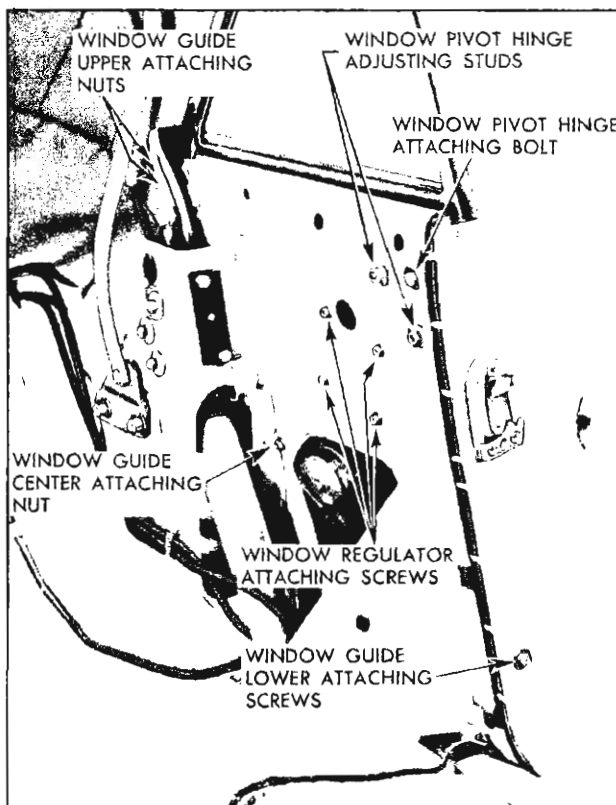

Fig. 65—Rear Quarter Hardware—67 Styles
3. Remove window pivot bolt (fig. 65). Disengage window male hinge from female hinge plate; then raise window to disconnect window lower sash channel cam from roller on window regulator lift arm and remove window.
1. To adjust the limit of the rear quarter window up travel, loosen the window guide upper attaching screws (fig. 65); then adjust upper stop to desired position and tighten guide attaching screws.
- a. Up or down or fore or aft window adjustment: Loosen pivot bolt and both adjusting stud nuts (fig. 65). Position window as required; then tighten pivot bolt and stud nuts.
- b. In or out adjustment of top of window: Loosen lower adjusting stud nuts and slightly loosen rear stud nut. Adjust lower stud in or out, as required; then tighten both stud nuts (fig. 65).
- c. In or out adjustment of rear window: Loosen pivot hinge rear adjusting stud nut and (slightly) lower adjusting stud nut. Loosen window guide upper attaching nuts and center stud nut (fig. 65). Adjust rear adjusting stud in or out as required, then tighten both stud nuts. Adjust window guide for proper alignment with window and tighten upper attaching nuts and center stud nut.
5. Remove regulator attaching screws (fig. 65). Disengage regulator lift arm roller from window lower sash channel cam and remove regulator.
3. Remove window guide upper and center attaching nuts and lower attaching screw (fig. 65). Disengage window guide and remove guide through large access hole.